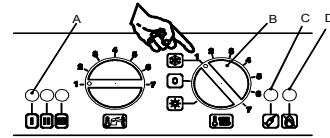

Figure 15.4
- Turn the function selector B as in Fig. 15.4 The appliance operation light A will flash every 2 seconds.
The boiler will now go through an ignition sequence and the burner will light. If during the ignition attempt period the boiler fails to light, the full sequence control p.c.b. will go to lockout and the lock-out signal lamp D will appear. To reset the boiler turn the knob B (figure 15.4) on the 0 position and then press and release the boiler reset button C (Fig. 15.4)
With the burner on high flame close the gas cock. After three ignition attempts (within about three minutes), the lock-out signal lamp must appear (D on Figure 15.4). To reset the boiler turn the knob B (figure 15.4) on the 0 position and then press and release the boiler reset button (C on Figure 15.4).